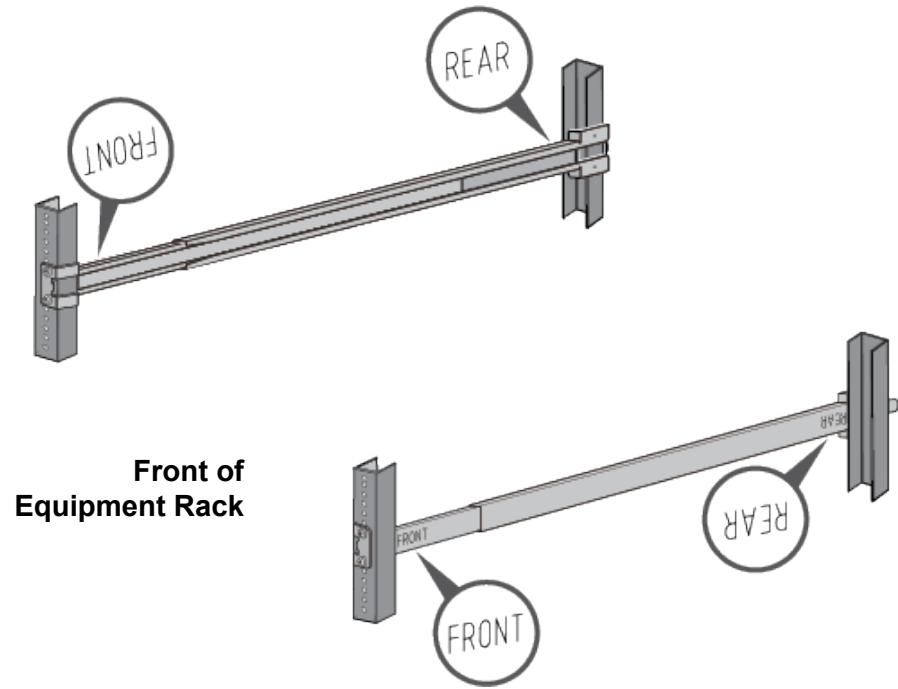

Figure 104. Installing the Outer Rails on the Equipment Rack
2. Attach the outer rails to the equipment rack using the supplied screws. Use four screws per rail. Refer to Figure 104 on page 184. Installing the switch can be easier if you leave the screws slightly loosened now and fully tightened them after the switch is installed.